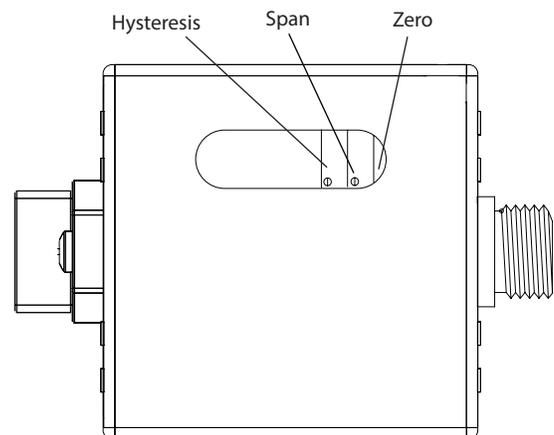

Figure 1. (QB2S, shown with 3D option)
4. Locate the plastic calibration access cap on top of the QBS valve and completely remove it. Located underneath are two adjustment trim pots, Zero "Z" and Span "S." See figure 1 for pots location.